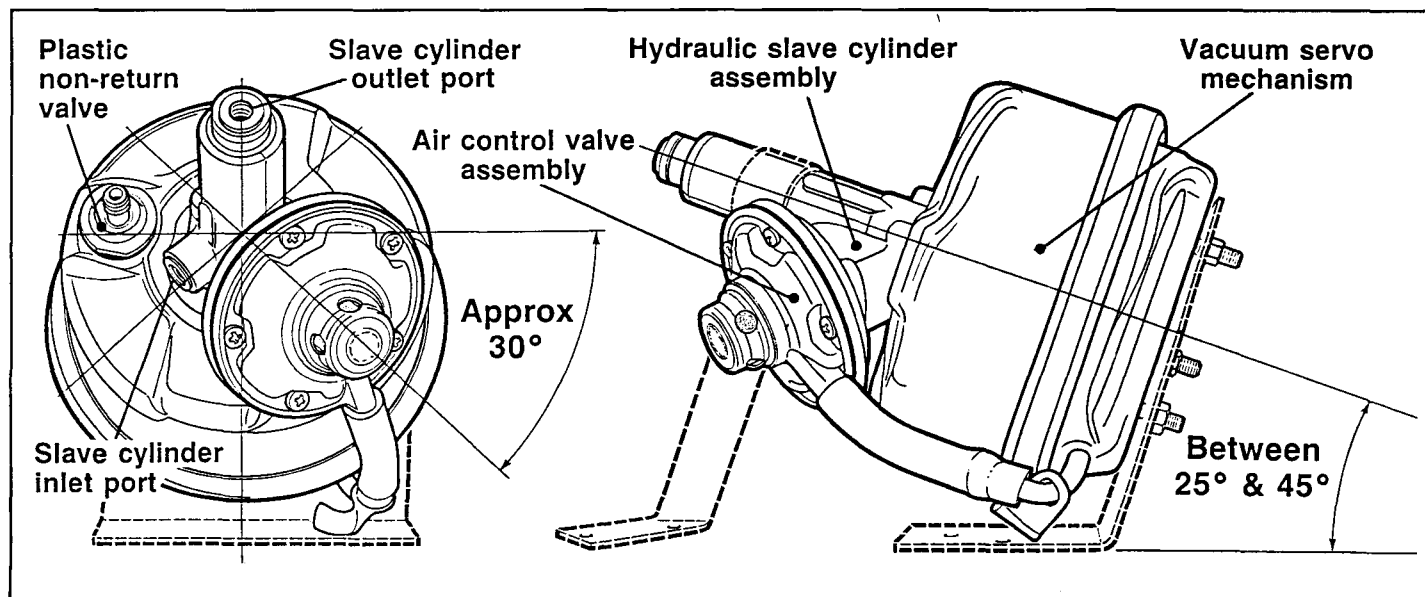

Fig.3
5. With the aid of the mounting brackets and fixings provided in the kit install the servo unit with the hydraulic slave cylinder outlet port **inclined upwards between 25° and 45° from the horizontal plane. (See Fig.2).** The air control valve should be situated **at least 30° below the centre line** to assist when bleeding the hydraulic system. **(See Fig.3).**